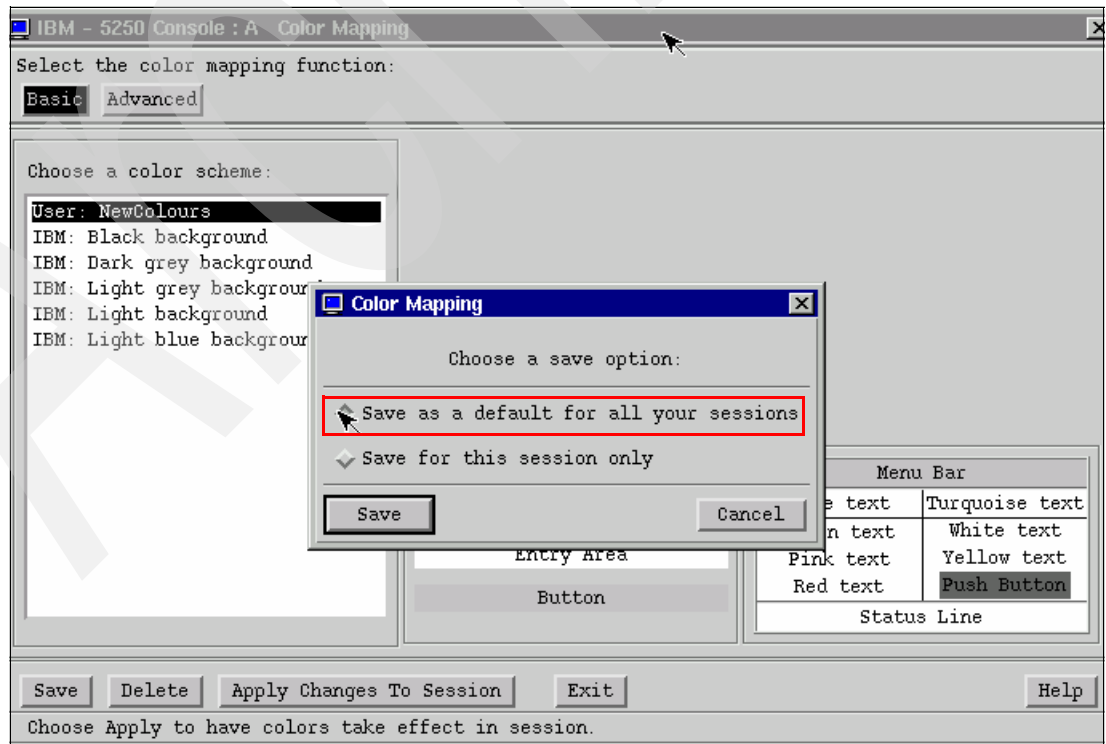

Figure 4-39 5250 session: Save option
- Save the color scheme as the default for all your sessions, as shown in Figure 4-39.